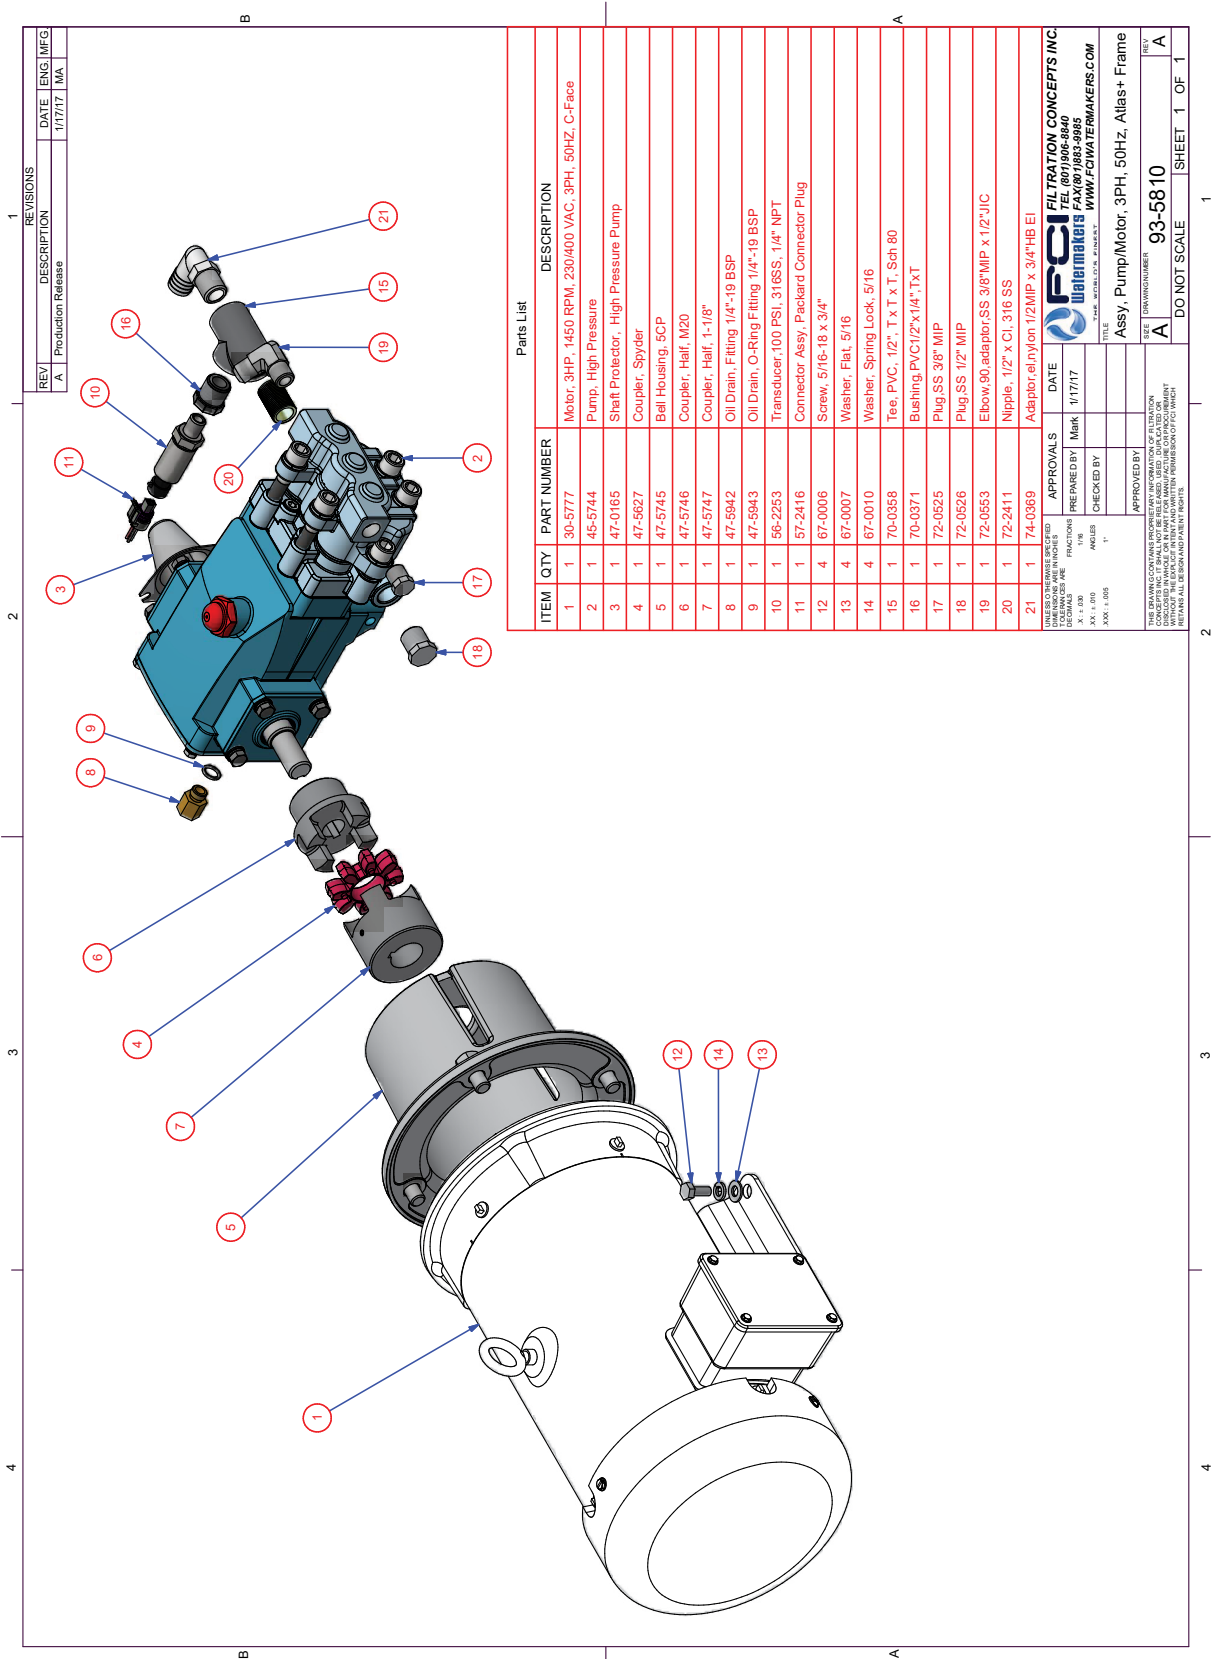

Figure 30: High Pressure Pump Assembly Drawing (50 Hz)
- "Figure 30: High Pressure Pump Assembly Drawing (50 Hz)" on page 119